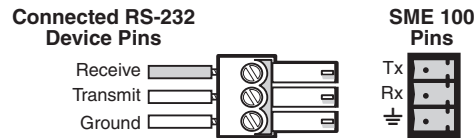

Figure 9. RS-232 Connector Wiring
- ⑩ **RS-232 connector (optional)** — Connect a host computer or control system to the RS-232 connector. Use this port to send Simple Instruction Set (SIS™) commands to the SME 100 for device configuration and control. The default protocol for this port is **9600 baud rate, no parity bit, 8 data bits, 1 stop bit, and no flow control (handshaking)**.
- See figure 9 below to wire the RS-232 connector.